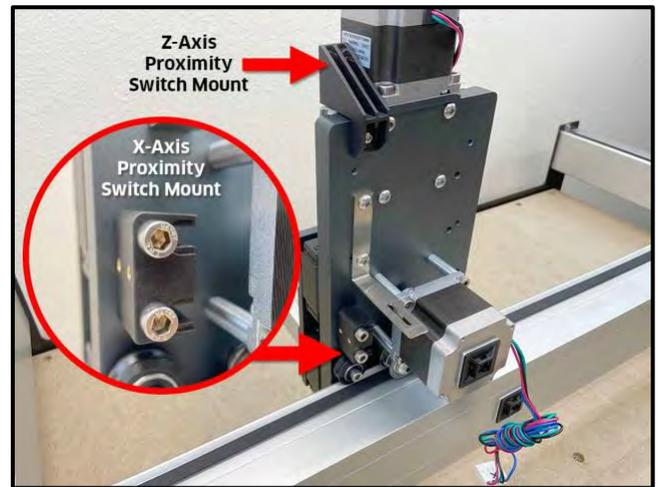

Figure 28
1. Install the X-Axis proximity switch mount to the back of the HDZ. See **Fig. 28** and **Fig. 28 inset**.
- c. Use a 4mm hex key and two (2) M5×25mm SHCS to secure.
2. Install the Z-Axis proximity switch mount to the back of the HDZ. See **Fig. 28**.
- b. Use a 2.5mm hex key and one (1) M4×6mm BHCS to secure the mount at the top of the HDZ.